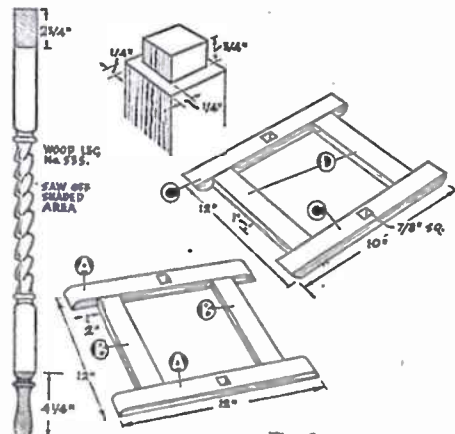

Fig. 2
The legs are prepared by cutting off a portion at each end as shown in Fig. 2. Make sure that they are cut dead square. The ends are then sawn to form stub tenons as detailed in the small diagram. The tenons should be marked out carefully before cutting and checked against the mortices in the rails.
Make the rails from 1 1/2 ins. by 1/2 in. wood to the dimensions shown in Fig. 2. Pieces (D) are dowelled into pieces (C) and are also glued and cramped. Here again pieces must be cut perfectly square to ensure a good fit. The construction is the same for top and bottom frames, but the pieces (C) are 2 ins. shorter than pieces (A).